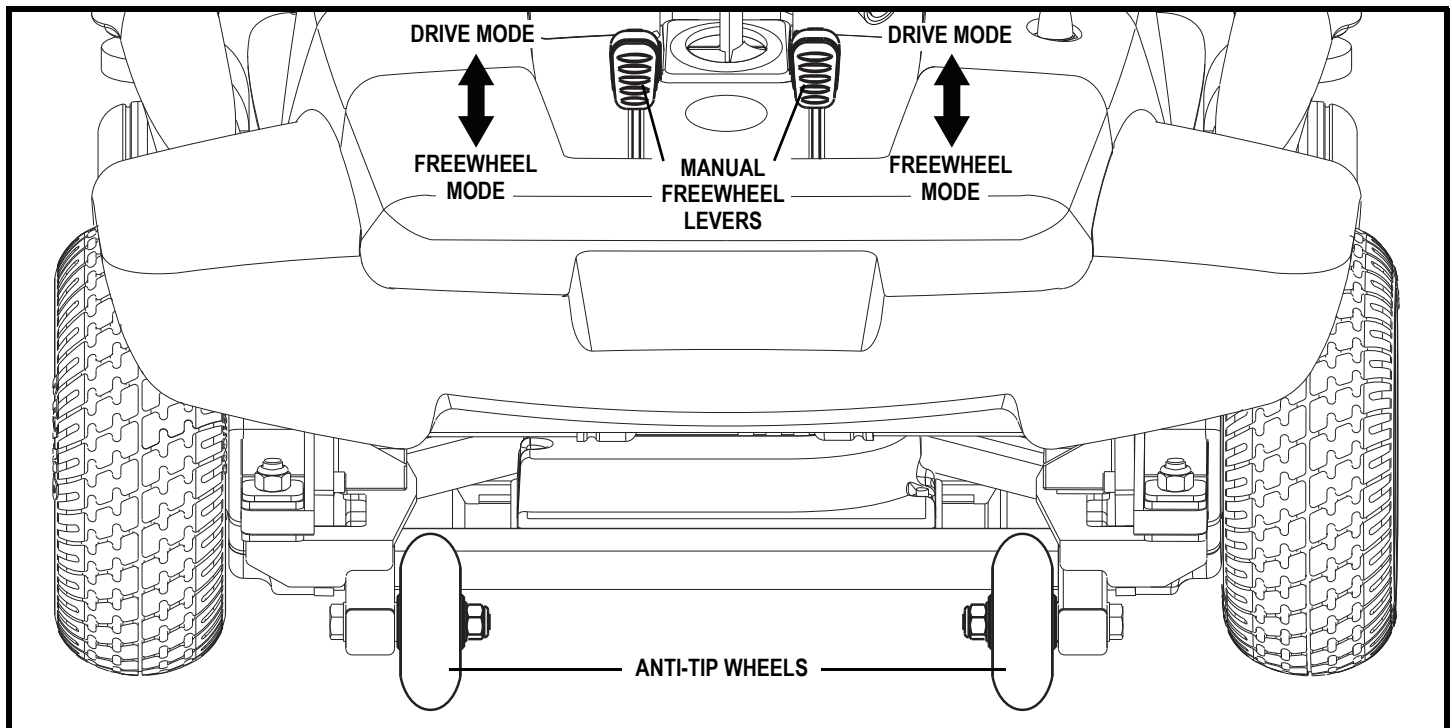

Figure 7. Rear of Power Base
1. Locate the levers on the rear section of the power base. See figure 7.
2. Push the two levers forward to engage the drive motors (drive mode). See figure 7.
3. Pull the two levers backward to disengage the drive motors (freewheel mode). See figure 7.
The anti-tip wheels are an integral and important safety feature of your power chair. They are bolted to the frame at the rear of the power base. See figure 7.